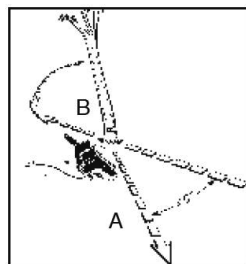

Fig. 2A
⚠ WARNING: A retreat path (A) should be planned and cleared as necessary before cuts are started. The retreat path should extend back and diagonally to the rear of the expected line of fall, as illustrated in Fig. 2A.
⚠ WARNING: As the felling cut gets close to the hinge, the tree should begin to fall. When tree begins to fall, remove saw from cut, unplug, put chain saw down, and leave area along retreat path (Fig. 2A).